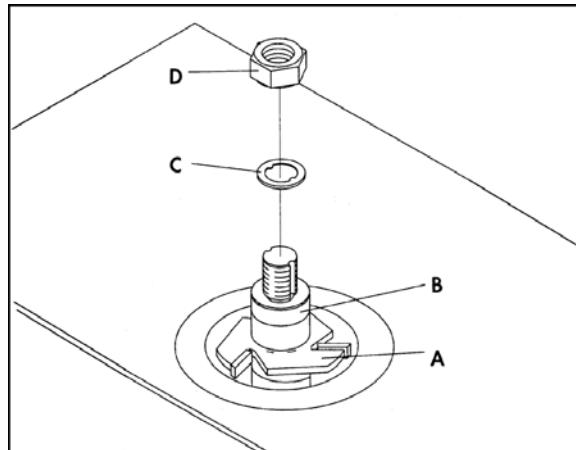

Figure 6
2. Place cutter (A, Figure 6) and desired spindle collars (B, Figure 6) on the spindle as shown.
3. Install keyed washer (C, Figure 6) and tighten nut (D, Figure 6) using the supplied wrench.
WARNING Always place the keyed washer (C, Figure 6) on the spindle before threading the nut. Failure to comply may cause serious injury.